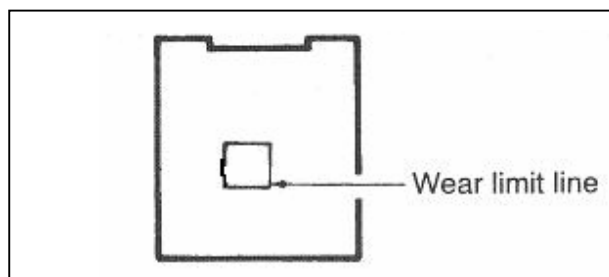
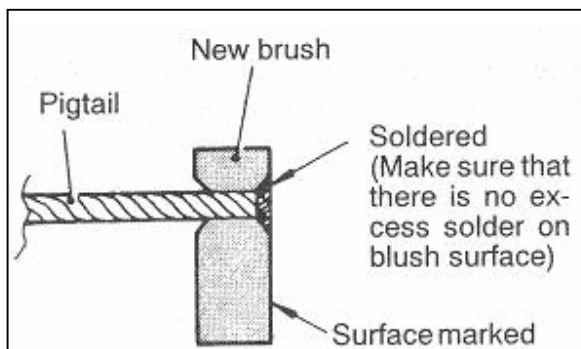

Fig. 9-22
Fig. 9-23
5) Brush and spring replacement (see Fig.9-22、Fig.9-23)